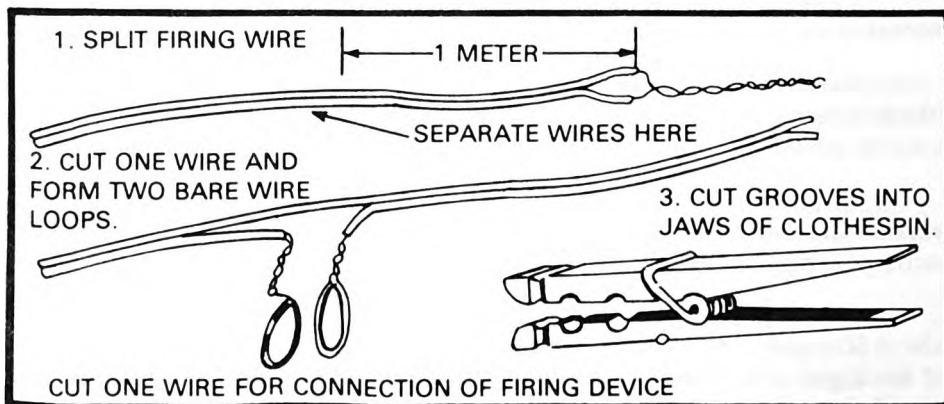

Figure 2.
- a. Prepare wire as shown in figure 2.
- b. Prepare clothespin as shown in figure 2.